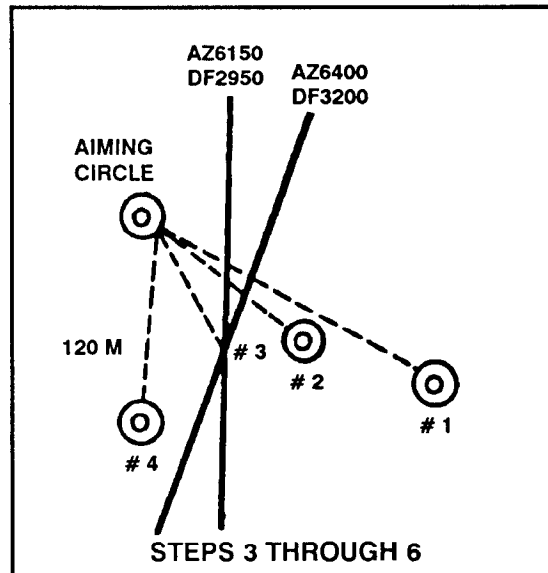

Figure G-4c. Determination of piece displacement (continued).
Step 3. Index the lay deflection from the aiming circle to No. 2 (1900 mils over the center line arrow). (Figure G-4c).